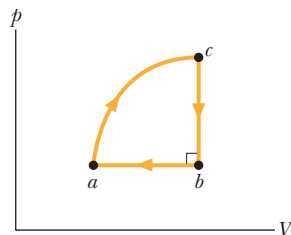

Figure 18-54 Problem 75.
**75** Figure 18-54 displays a closed cycle for a gas. From  $c$  to  $b$ ,  $40\text{ J}$  is transferred from the gas as heat. From  $b$  to  $a$ ,  $130\text{ J}$  is transferred from the gas as heat, and the magnitude of the work done by the gas is  $80\text{ J}$ . From  $a$  to  $c$ ,  $400\text{ J}$  is transferred to the gas as heat. What is the work done by the gas from  $a$  to  $c$ ? (*Hint: You need to supply the plus and minus signs for the given data.*)